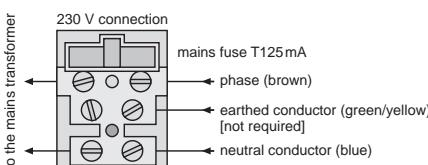

Fig. 4 Overview of the connections
The following fig. 4 shows all possible connections. Detailed information can be found in chapters 4.5.1 to 4.5.12.
- All alarm contacts shown in fig. 4 are opening contacts (also called NC contact = normally closed) as for the majority of the standard components. Generally it is also possible to use closing contacts (NO contacts = normally open). As an example of connection a raid detector is indicated in chapter 4.5.7. Within a loop, only use one contact type.